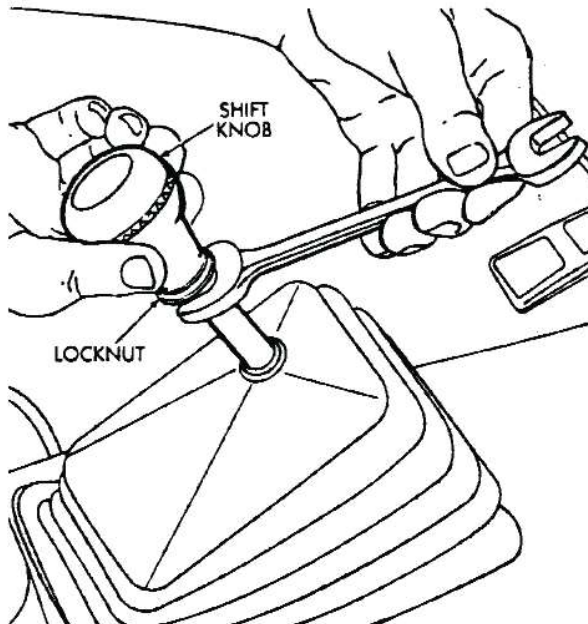

Fig. 1-1 Removing Shift Knob
1. Remove the transfer case shift knob locknut and remove the knob (Fig. 1-1).